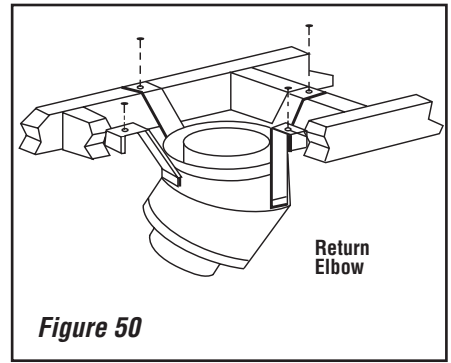

Figure 50
- Step 5.** Secure support straps to framing members by nailing under tension in shear (**Figure 50**).